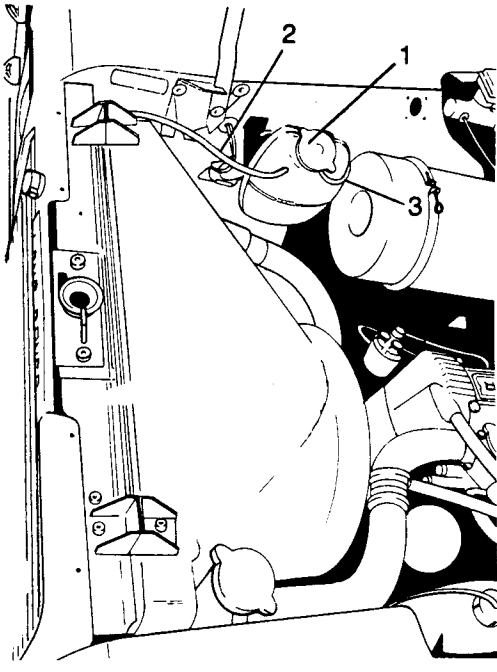

Fig E4.3
- (1) Refer to Fig E4.3. Remove the expansion tank filler cap (1) by first turning it counter clockwise a quarter of a turn to allow pressure to escape, then turning it further in the same direction to lift it off.
- (2) Disconnect the hose (2) from the radiator.
- (3) Disconnect the overflow pipe (3).
- (4) Remove the two bolts in the bracket over the tank and take off the bracket.
- (5) Remove the expansion tank.